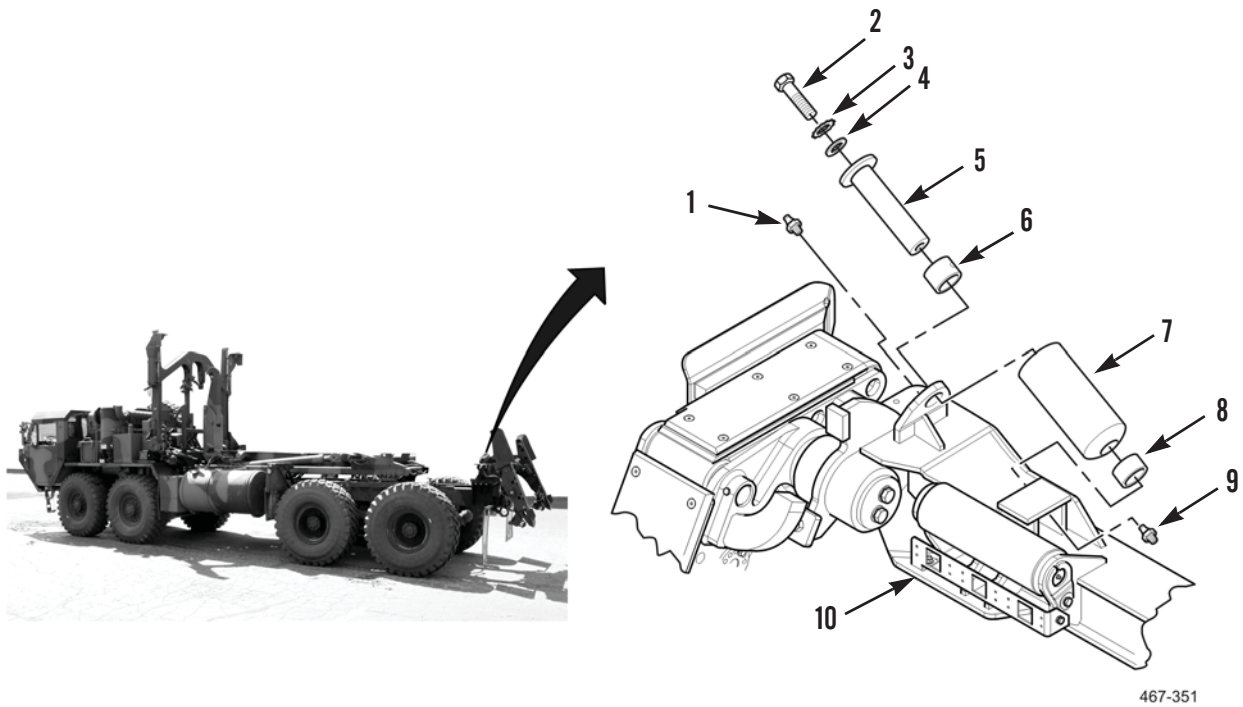

Figure 1. Angled Roller Replacement.
3. Remove roller pin (Figure 1, Item 5), spacer (Figure 1, Item 6), angled roller (Figure 1, Item 7), and spacer ring (Figure 1, Item 8) from rear slider assembly (Figure 1, Item 10).
1. Apply grease to roller pin (Figure 1, Item 5).
2. Install spacer ring (Figure 1, Item 8), angled roller (Figure 1, Item 7), spacer (Figure 1, Item 6), and roller pin (Figure 1, Item 5) on slider assembly (Figure 1, Item 10).
3. Install washer (Figure 1, Item 4), new star washer (Figure 1, Item 3), and bolt (Figure 1, Item 2) on roller pin (Figure 1, Item 5).
4. Install two grease fittings (Figure 1, Items 1 and 9) on rear slider assembly (Figure 1, Item 10).